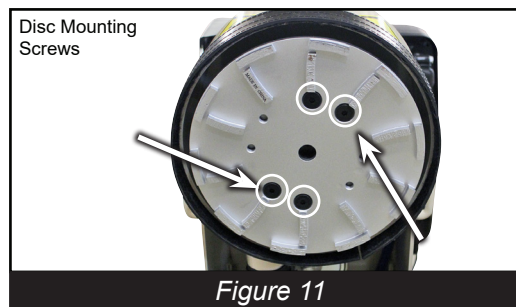

Figure 11
- Inspect the disc mounting screws. (*Figure 11*) The constant vibration and heat generated, especially when grinding dry, could cause the screws to loosen and the disc to become off balance.